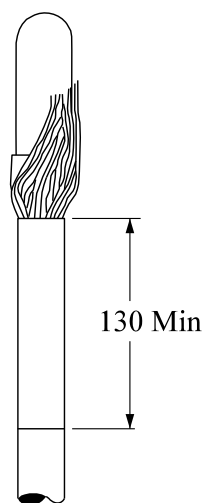

Fig 9
- 10.6. Cut the PVC oversheath for a distance of 130mm, take the CNE strands to one side and twist together into a compact group - Fig 9.